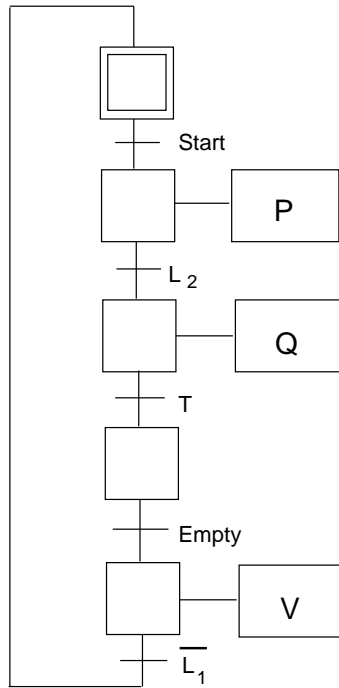

Figure 7 GRAFCET in Problem 8
8. **Only for FRTN25 Process Control.** You have designed a sequential controller for a batch reactor and used GRAFCET to describe the logic, see Figure 7. The controller works as follows:
One solution is shown in Figure 7. More elaborate solutions are also possible.